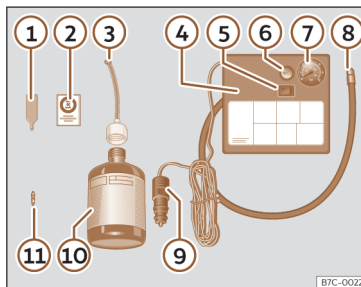

Fig. 248 Standard display: contents of the tyre mobility system.
>>> **Fig. 248:**
- Unscrew the tyre valve cap and insert. Use the device >>> **Fig. 248** ① to remove the valve cap. Place it on a clean surface.
- Shake the tyre sealant bottle vigorously >>> **Fig. 248** ⑩.
- Screw the tyre inflation hose >>> **Fig. 248** ③ into the tyre sealant bottle. The bottle's seal will break automatically.
- Remove the filler cap >>> **Fig. 248 ③** and screw the open end of the tube into the tyre valve.
- Replace the valve insert with the device >>> **Fig. 248 ①** onto the tyre valve.
- Screw the tyre inflation tube of the compressor >>> **Fig. 248 ⑧** onto the tyre valve.
- Check that the air evacuation screw is closed >>> **Fig. 248 ⑥**.
- Attach the connector >>> **Fig. 248 ⑨** to the vehicle's 12 volt power outlet >>> page 261.
- Switch on the air compressor with the ON/OFF switch >>> **Fig. 248 ⑤**.
- Attach the sticker >>> **Fig. 248 ②** to the instrument cluster display, within the driver's field of vision.
Screw in the inflator tube >>> **Fig. 248 ⑧** again and check the pressure on the gauge **⑦**.